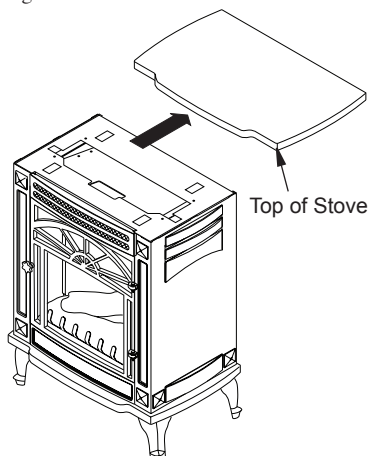

Figure 9 - Removing Top of Stove
1. Remove top of stove by sliding top toward the back (see Figure 9). Top fits into slots and should slide off easily.